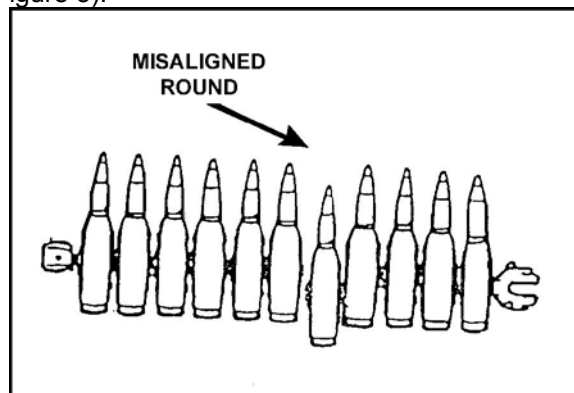

Figure 3. Misaligned round.
- c. Align all rounds (Figure 3).